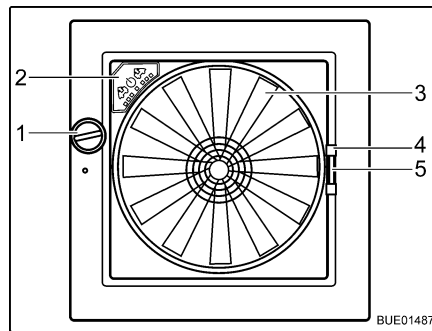

Fig. 85 Omni-Vent skylight
- Opening:* ■ Turn the knob (Fig. 85,1) until the desired opening angle is reached.
- Closing:* ■ Turn the knob (Fig. 85,1) until the skylight is fully closed.
- Closing:* ■ Using the handle (Fig. 85,4) pull the insect screen across to the other side of the frame.
- Closing:* ■ Press together the handle (Fig. 85,5) of the shade.
Fan If the skylight is open, the interior can be vented and aerated with the 6-speed fan (Fig. 85,3). The fan is operated via the operating panel (Fig. 85,2).